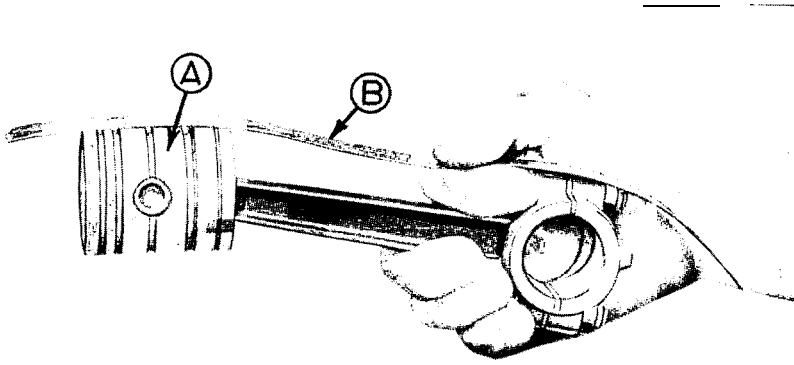

Figure 22
b. Fitting Pistons in Cylinders. Proper clearance between piston and cylinder wall is 0.002 inches. With rings removed, a piston of correct size should just fall through the cylinder. Be sure to replace pistons in same cylinders front which they were removed. The cylinders are numbered consecutively 1, 2, 3, 4 from crank end to radiator end, and each connecting rod is marked with a number corresponding to the cylinder to which it is fitted. When fitting a piston, check the clearance with a 0.002 inch shim (Fig. 22). New pistons should not wedge when being fitted with this size shim, but a noticeable drag will be felt.